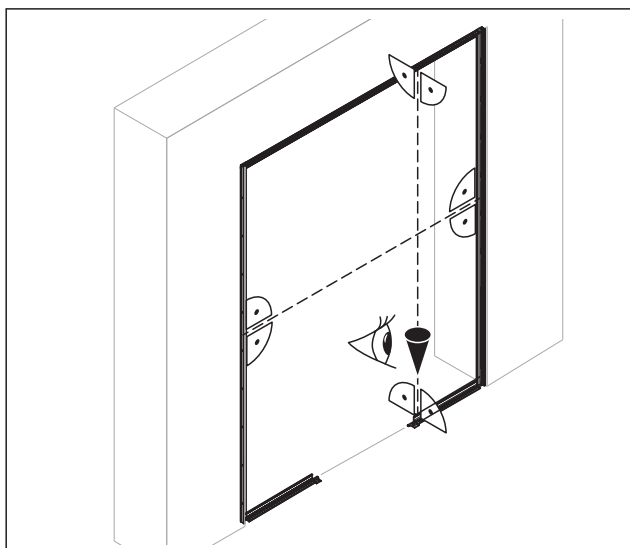

Fig. 16 Mark the unit alignment
1. Mark the unit's alignment (Fig. 16) on the ground, e.g. with a chalk line.